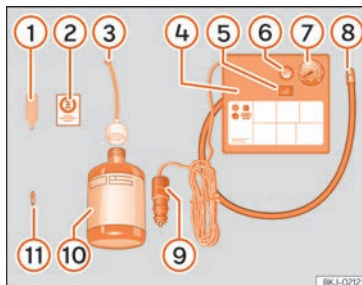

Fig. 41 Standard representation: anti-puncture kit contents.
» **Fig. 41:**
- Unscrew the tyre valve cap and insert. Use the » **Fig. 41** 1 tool to remove the insert. Place it on a clean surface.
- Shake the tyre sealant bottle vigorously » **Fig. 41** 10.
- Screw the inflator tube » **Fig. 41** 8 into the sealant bottle. The bottle's seal will break automatically.
- Remove the lid from the filling tube » **Fig. 41** 3 and screw the open end of the tube into the tyre valve.
- Place the insert back into the tyre valve using the tool »» Fig. 41 ①.
- Screw the compressor tyre inflator tube »» Fig. 41 ⑧ into the tyre valve.
- Check that the air bleed screw is closed »» Fig. 41 ⑥.
- Insert the connector »» Fig. 41 ⑨ into the vehicle's 12-volt socket »» page 158.
- Turn the air compressor on with the ON/OFF switch »» Fig. 41 ⑤.
- Attach the sticker »» Fig. 41 ② to the instrument cluster, within the driver's visual field.
Screw the inflator tube »» Fig. 41 ⑤ again and check the pressure on the gauge ⑥.